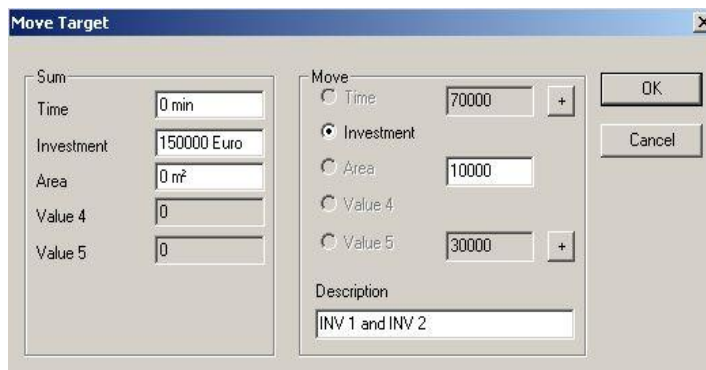

Figure 141: Move Target Dialog
Project targets can be edited if targets change during the course of a project. For example, you may wish to allocate originally planned investments to different production areas or you may prefer a different assignment of area space. This new assignment can be made in the **Move Target** dialog. Please refer to the Figure 141.
- 5) To move a value, just type the value in the required field (1000 in our example). This input determines the value you want to move. *Please refer to the Figure 141.*
- 6) The assignment of values can be made using the two plus buttons. The previously entered value will be assigned to the corresponding target at the point where you press the plus button. *Please refer to the Figure 141.*